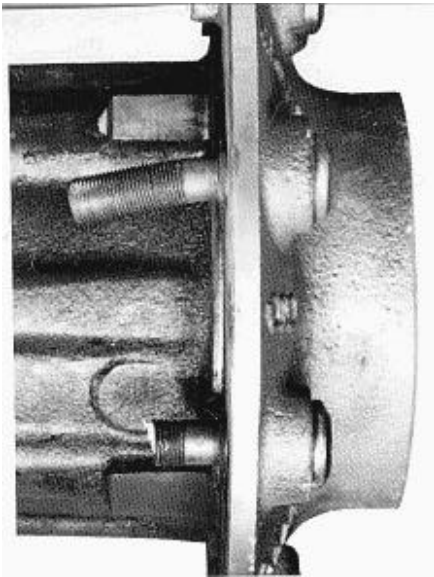
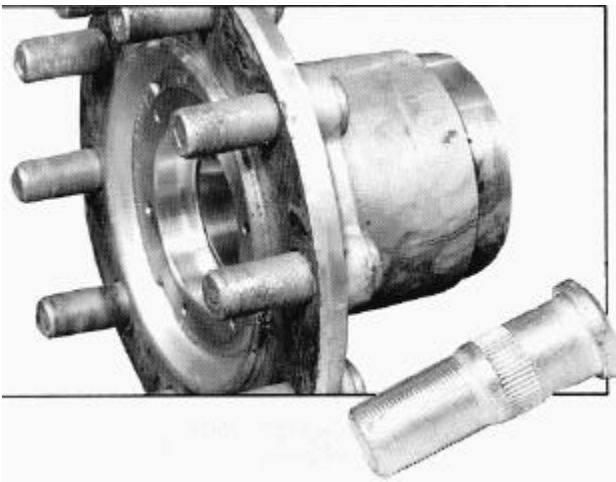

Figure 37 Broken Studs
Figure 38 Stripped Threads
3. Broken or Stripped Threads Wheel Stud (Figure 37 and Figure 38). Replace studs.